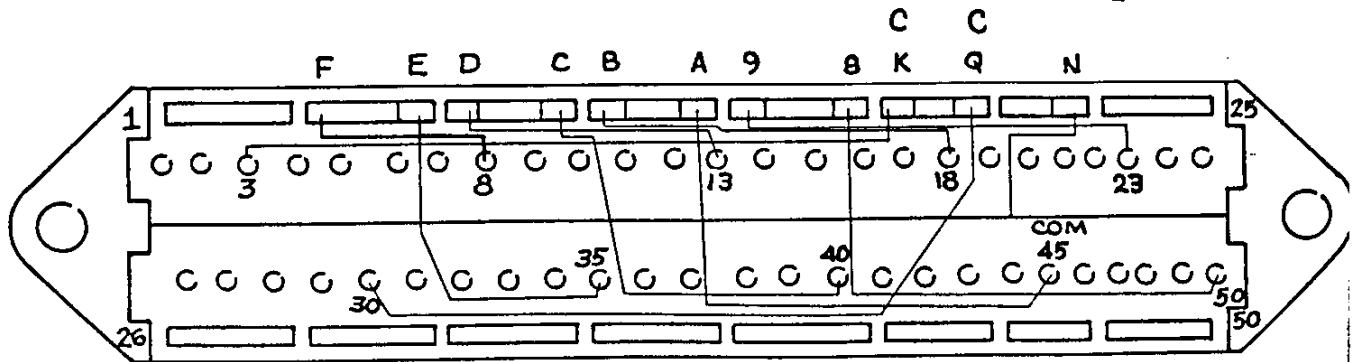

Figure 5.18-Alignment Fixture 'A' Wiring Diagram
3. Install terminals with crazy glue as shown in Figure 5.17 and wire as you go, as shown in Figure 5.18
NOTE: Follow wire routes as shown in Figure 5.18